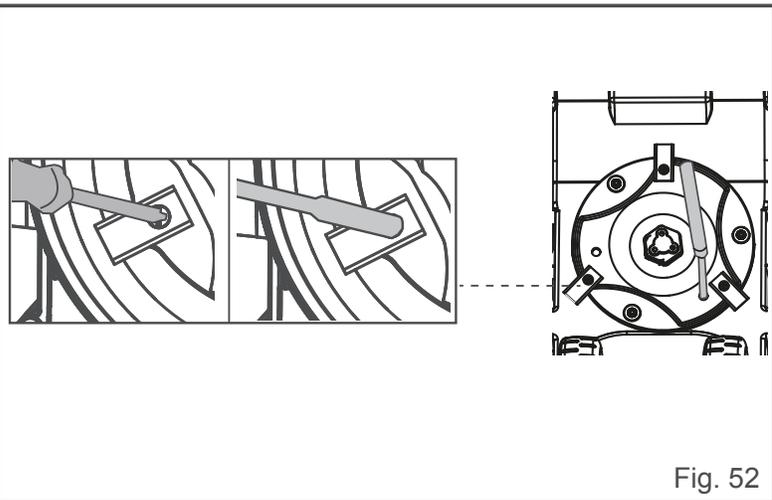

Fig. 52
- Wear protective gloves and use a manual screwdriver or hexagonal socket wrench to remove all three screws and blades (Fig. 52).